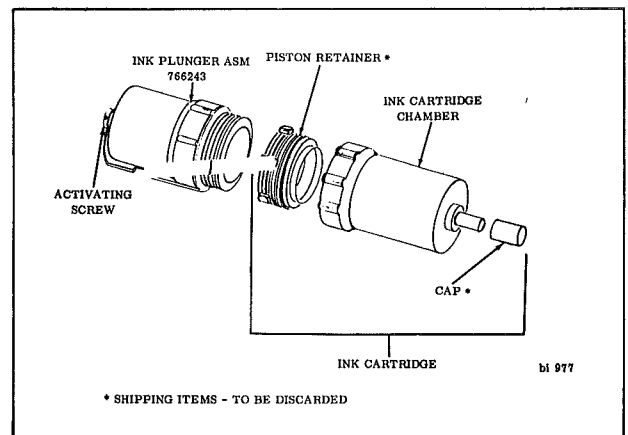

FIGURE 5-25 INK CARTRIDGE ASSEMBLY
5. Remove piston retainer from replacement cartridge and discard. (Figure 5-25).